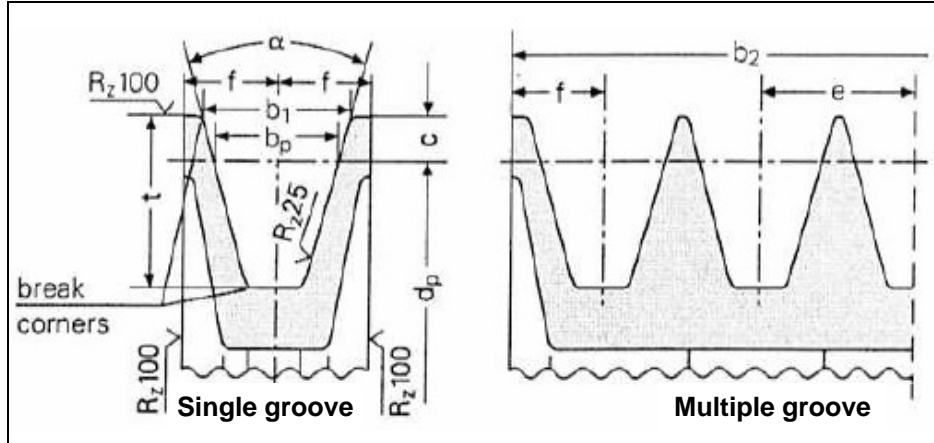

fig. 10
- Use pulleys with v-belts with the size of the groove required/recommended by the manufacturer of belt used. In the absence of directions, follow fig.10 and the table in fig.11.